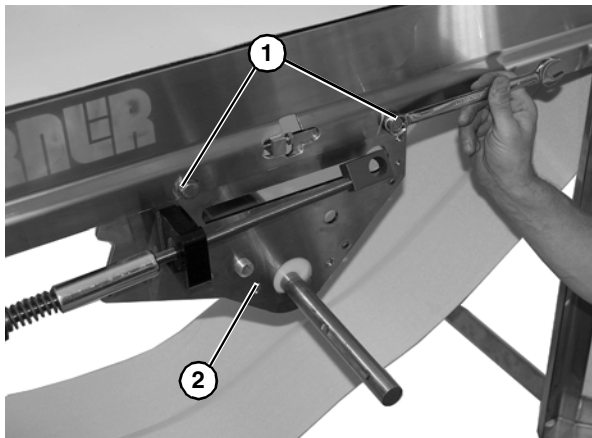

Figure 94
11. Remove two bolts (Figure 94, item 1) holding plate assembly (Figure 94, item 2) to conveyor.